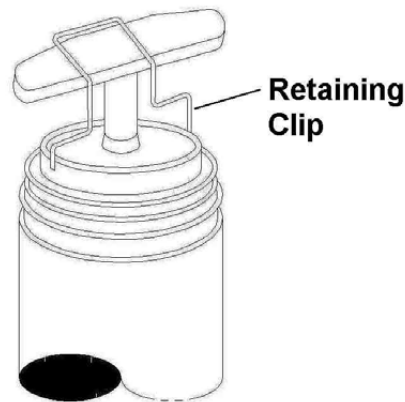

Figure 7-3 Follower Handle Retaining Clip.
1. Disengage the retaining clip from the follower handle. Refer to Figure 7-3.